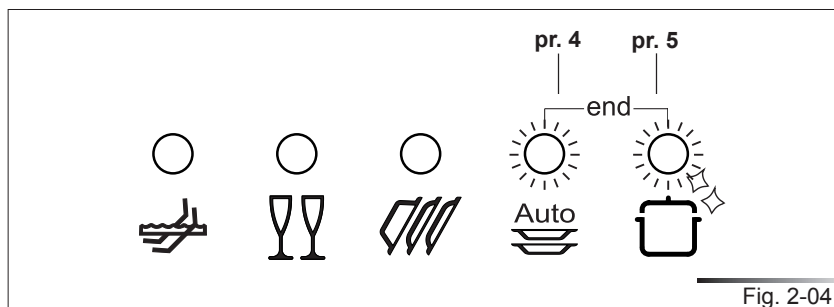

Fig. 2-04
At the end of the program, the dishwasher emits a short beep and the **indicator lights of the fourth and fifth program** (ref. pr. 4, pr. 5 fig. 2-04) flash. Turn off the appliance by opening the door and pressing the **on/off button** (ref. 1 fig. 2-02).